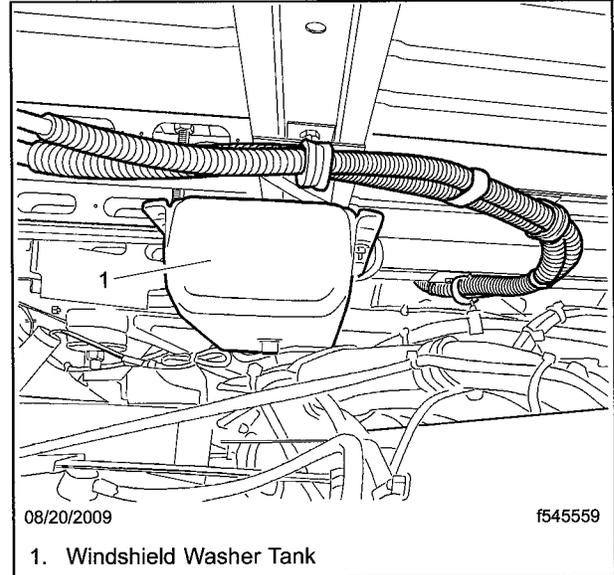

Fig. 2, Remove the P-Clamps
7. Remove the p-clamps and wire ties that secure the battery cables to the cab underbody, and remove the electrical tape that binds the two battery cables. See **Fig. 2**. Save the p-clamp assemblies, including all bolts, flatwashers, lockwashers, and nuts for installation.